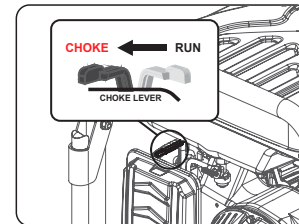

Fig 13
- Slide the choke lever to the “Choke” position. (See fig 13) **SKIP THIS IF THE ENGINE IS WARM OR HOT.**